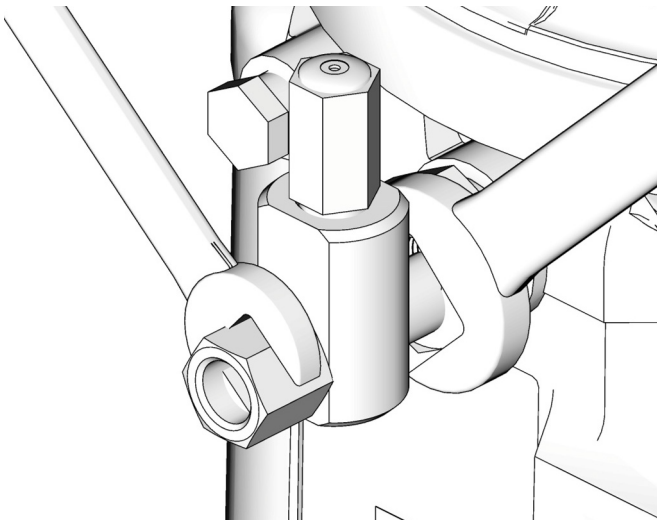

FIG. 6
- Always use two wrenches working in opposite directions when connecting anything to pump element or auxiliary fittings. See FIG. 6 for an example.